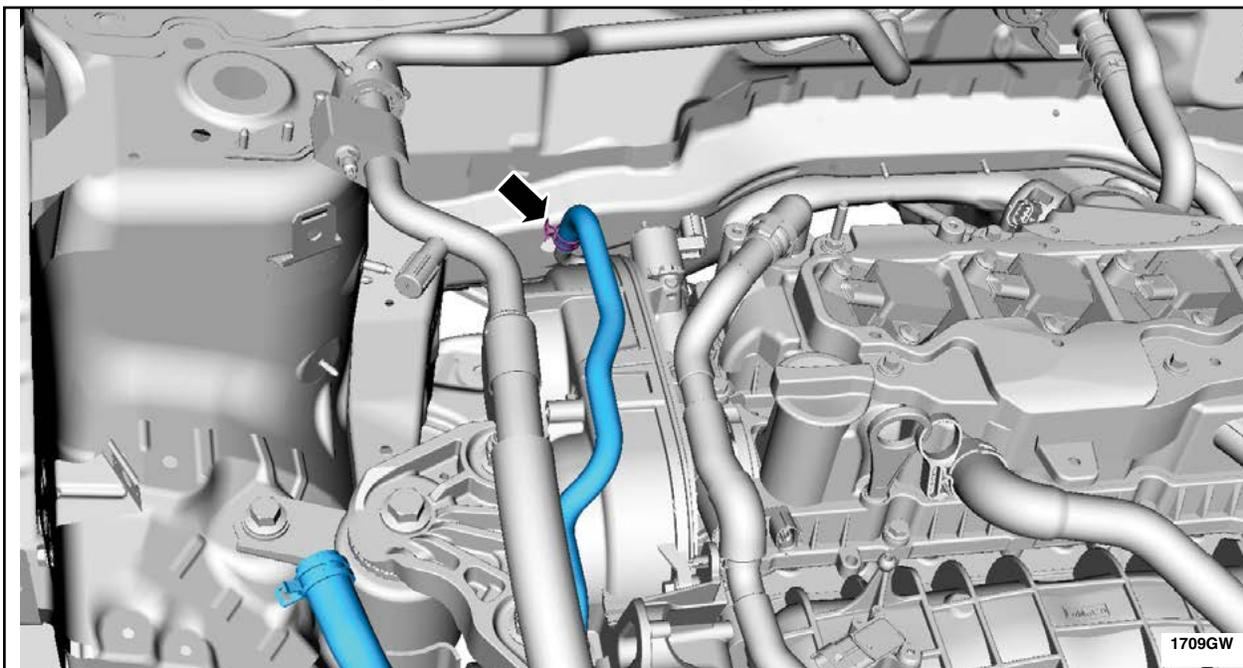

FIGURE I10
10. Connect the *new* turbocharger coolant return hose. See Figure I10.